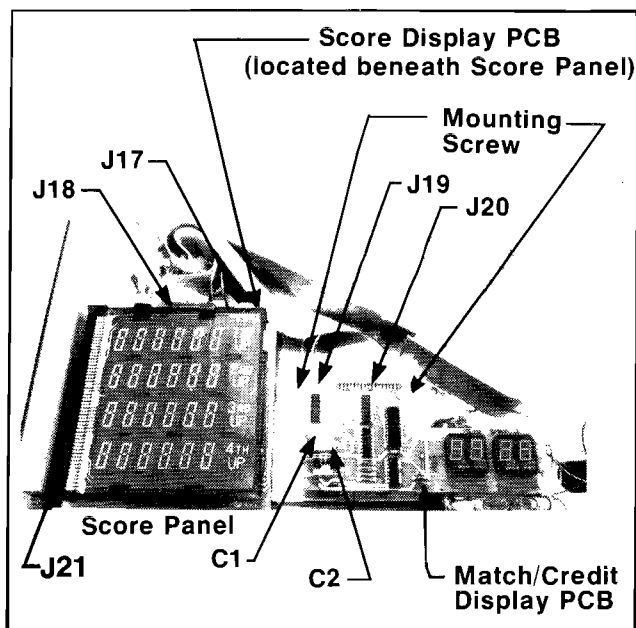

Figure 16 Top View of Score and Match/Credit Display Assembly
3. Connect a voltmeter across the following capacitors shown in Figure 16, and check for the readings listed below: